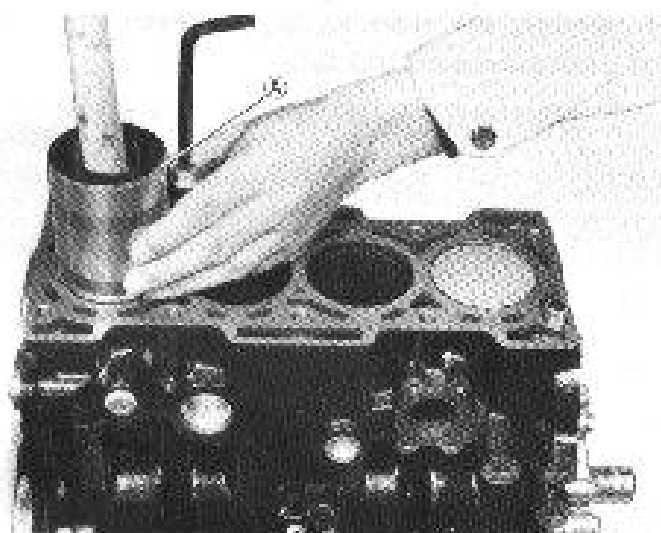

Fig. 3-109
Use of the piston ring compressor (A) (09916-77310), Fig. 3-109, is mandatory in inserting pistons into cylinder block. Using this compressor (A), feed the piston and connecting rod combination into the bore from the gasketed surface side of block, starting with No. 1 and No. 4 cylinders, while the crankshaft in place is so turned as to hold No. 1 and No. 4 crankpins at bottom dead center. Install No. 2 and No. 3 combinations similarly.